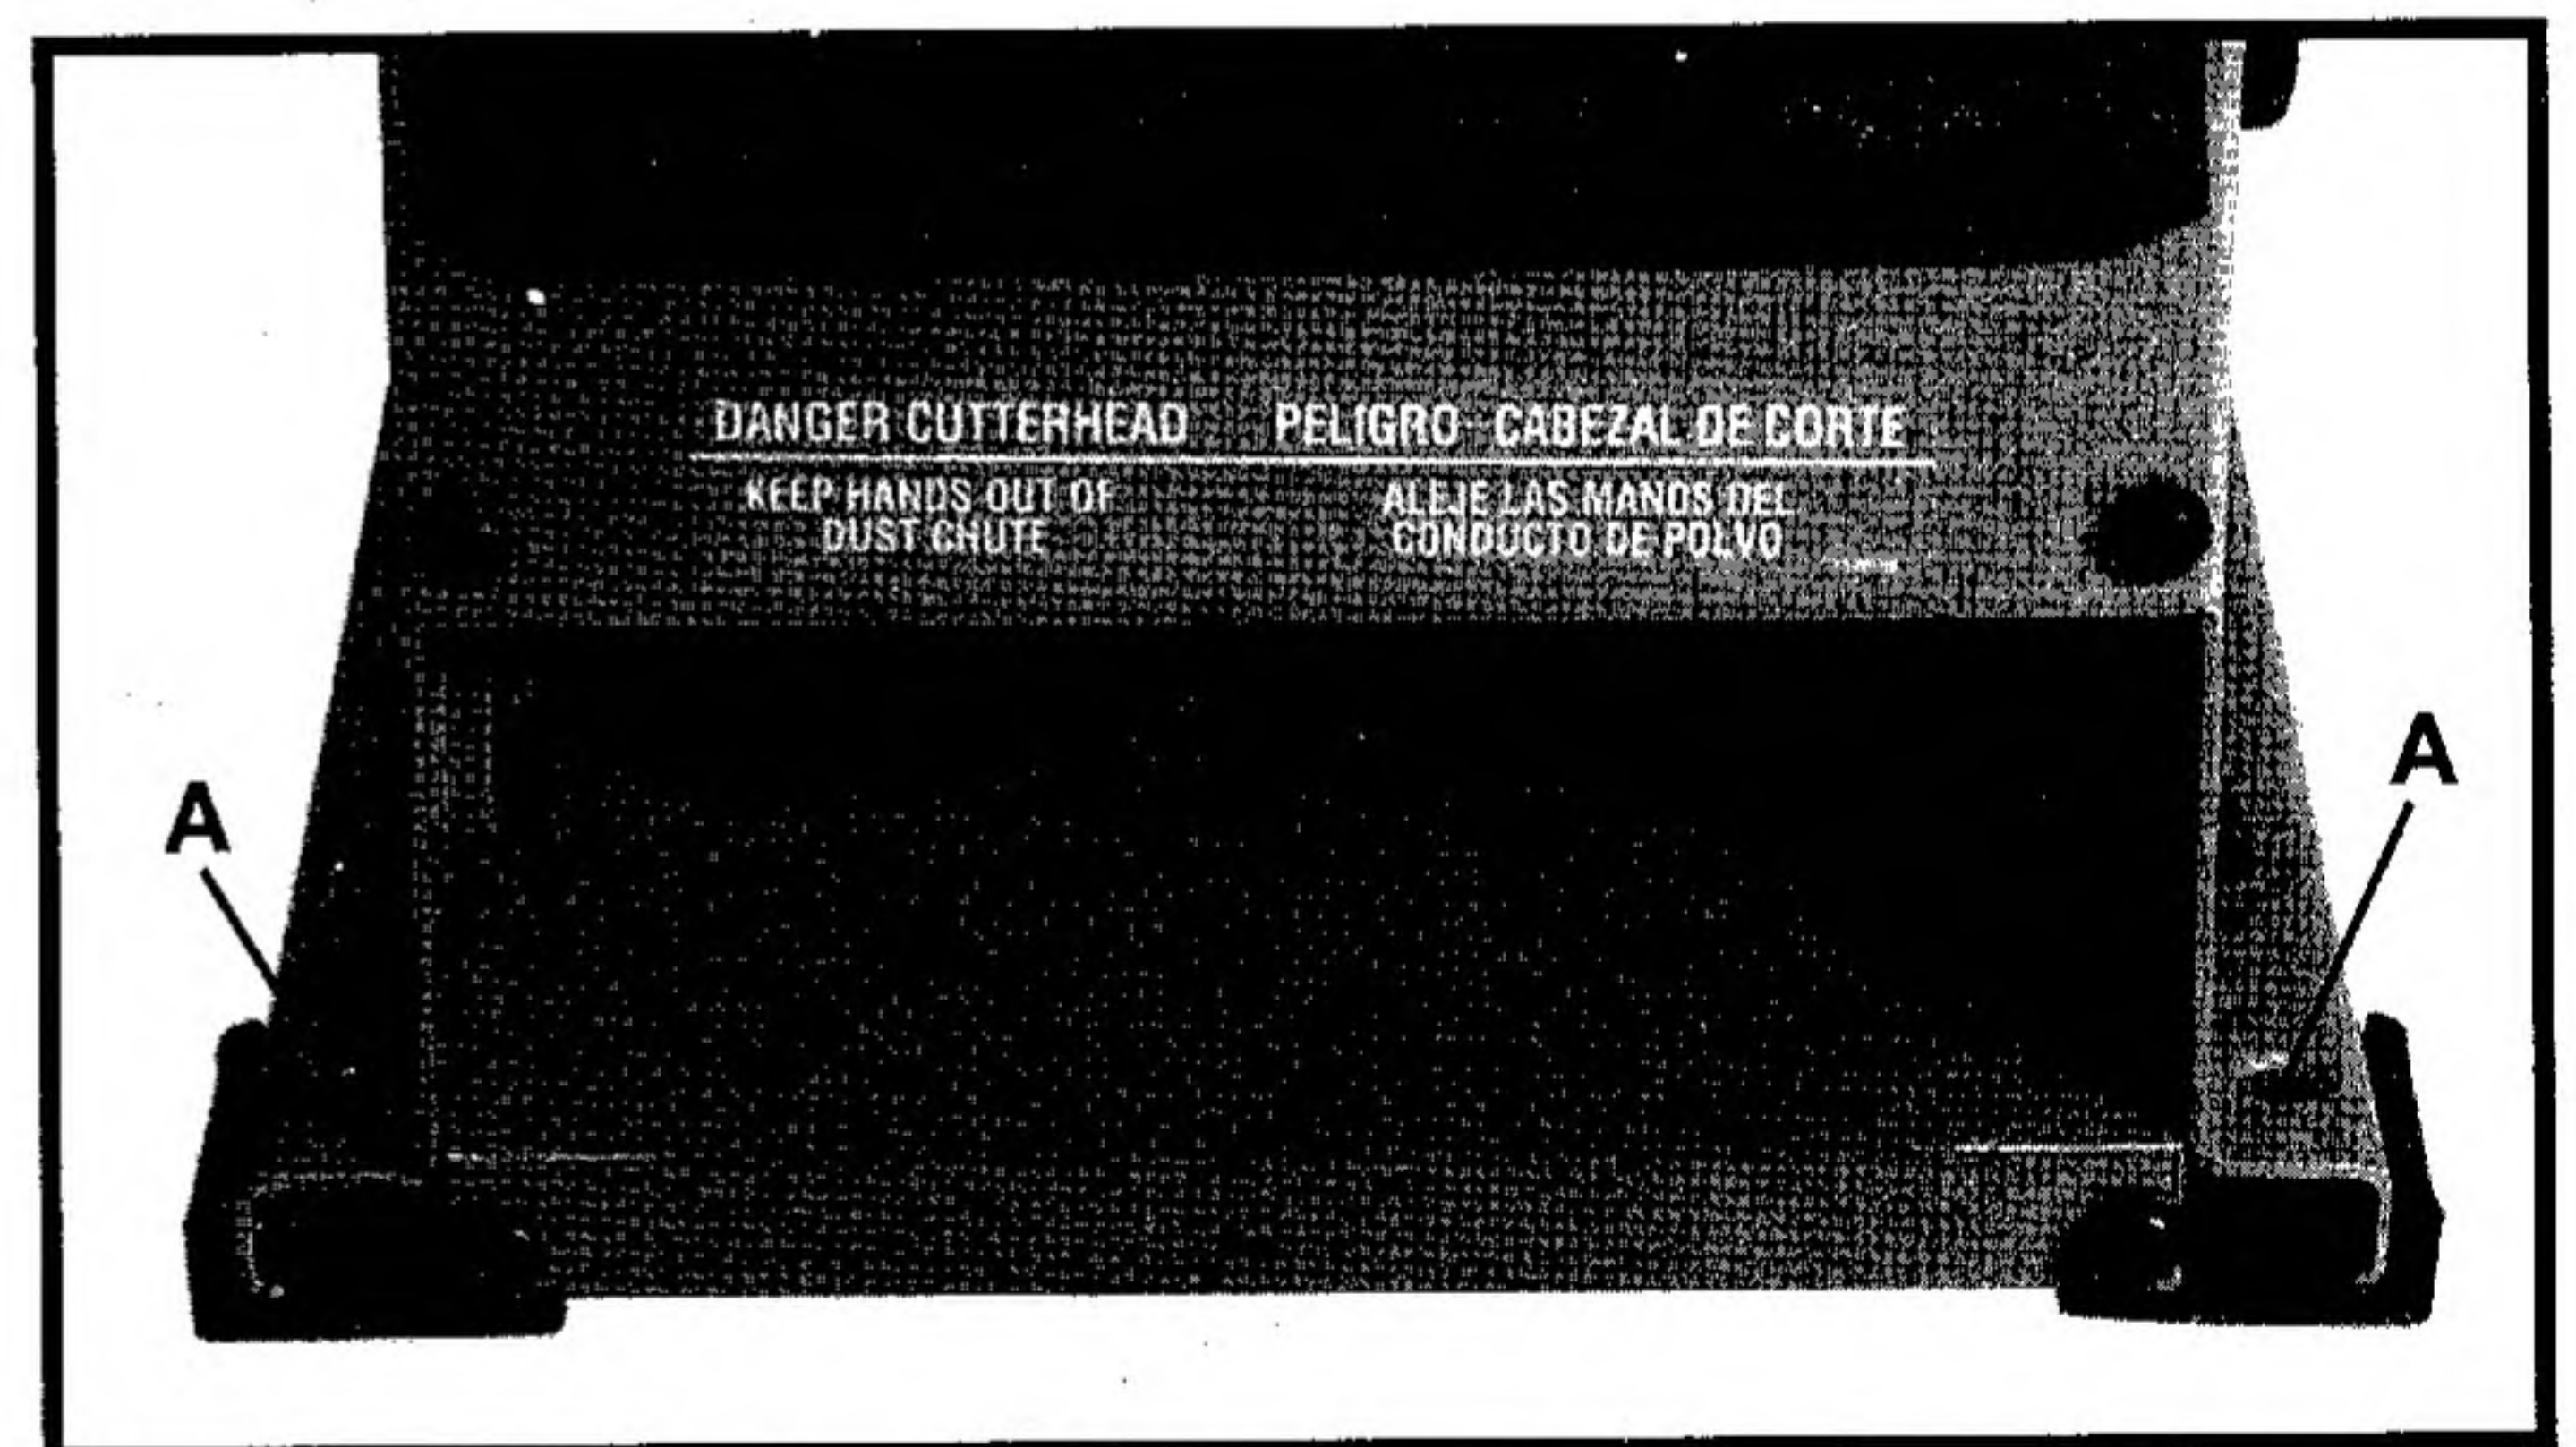

Fig. 20
If during operation, there is any tendency for the jointer to tip over, slide or "walk" on the supporting surface, the jointer must be secured to the supporting surface. Four holes (two of which are shown at (A) Fig. 20), are provided for this purpose.